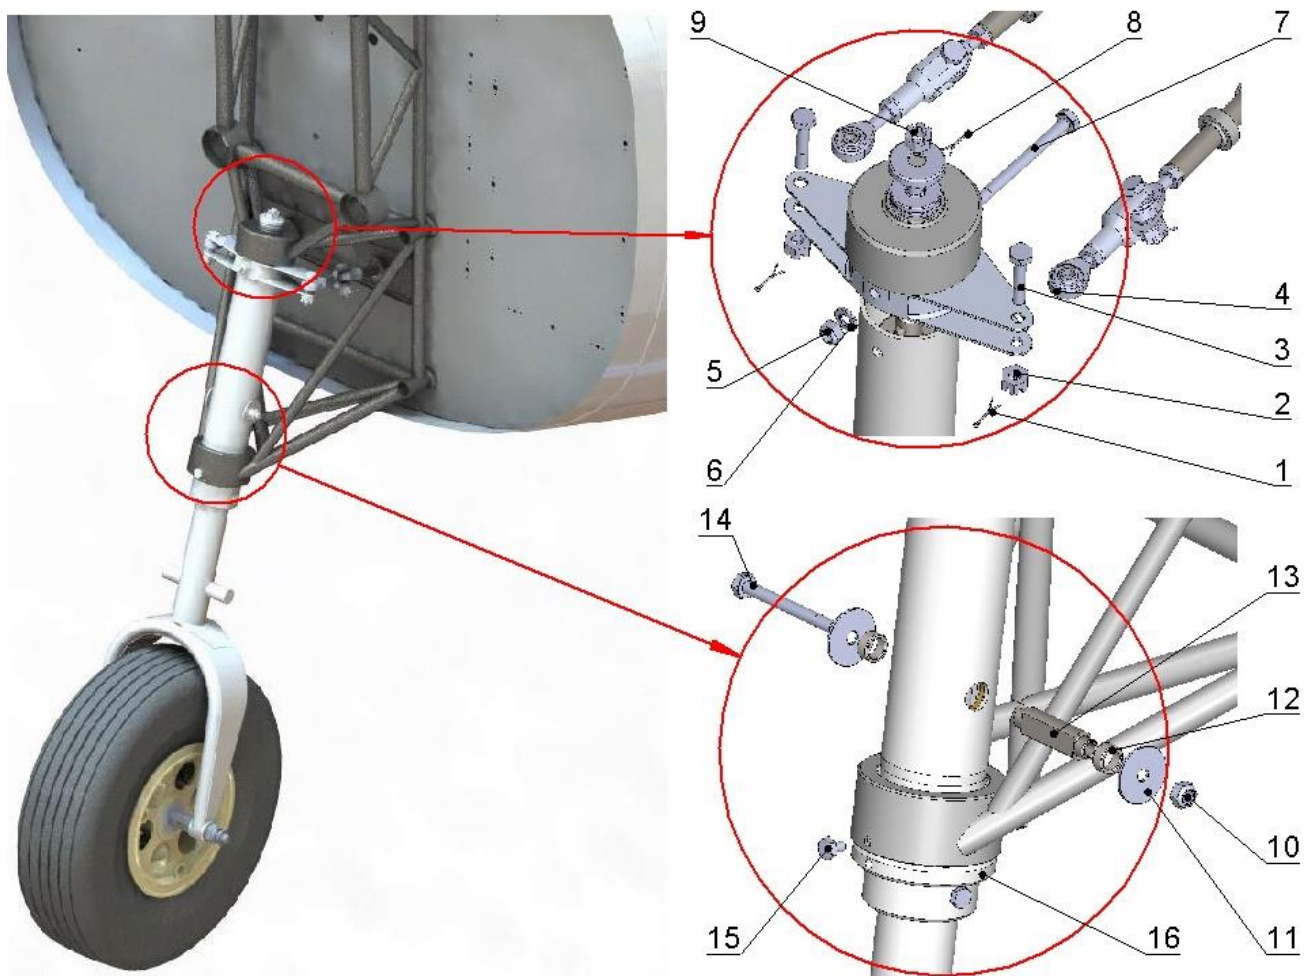

Fig. 32-20-3
B. Nose Gear Removal (Fig. 32-20-3)
C. Nose Gear Installation (Fig. 32-20-3)